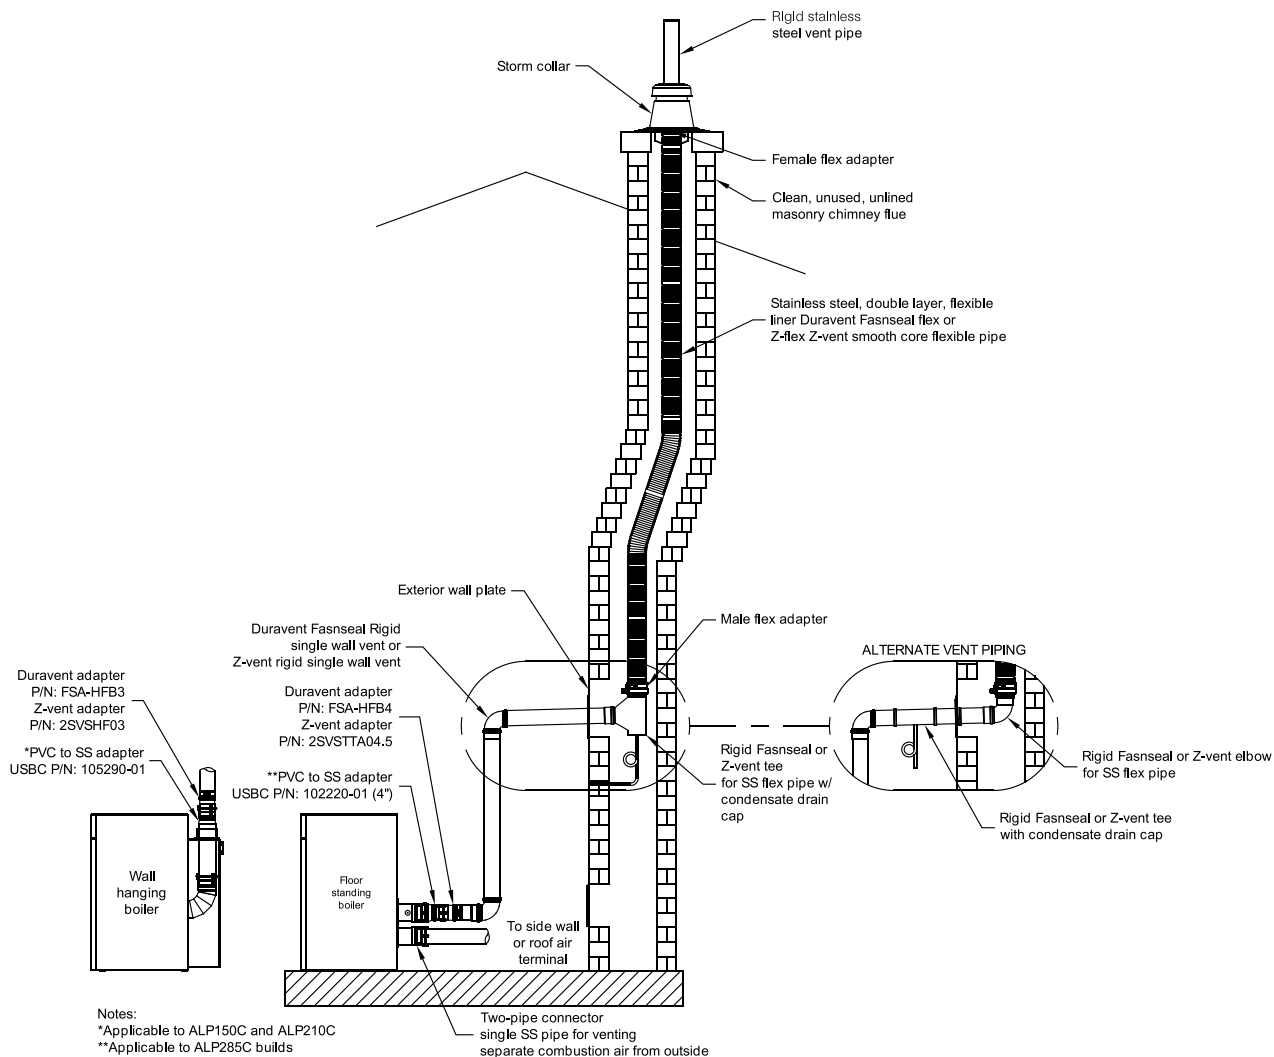

Figure 4-46: Flexible Stainless Steel Vent in UNUSED Masonry Chimney with Separate Combustion Air Intake
- b. Refer to Figure 4-46 for details of chimney chase installation.